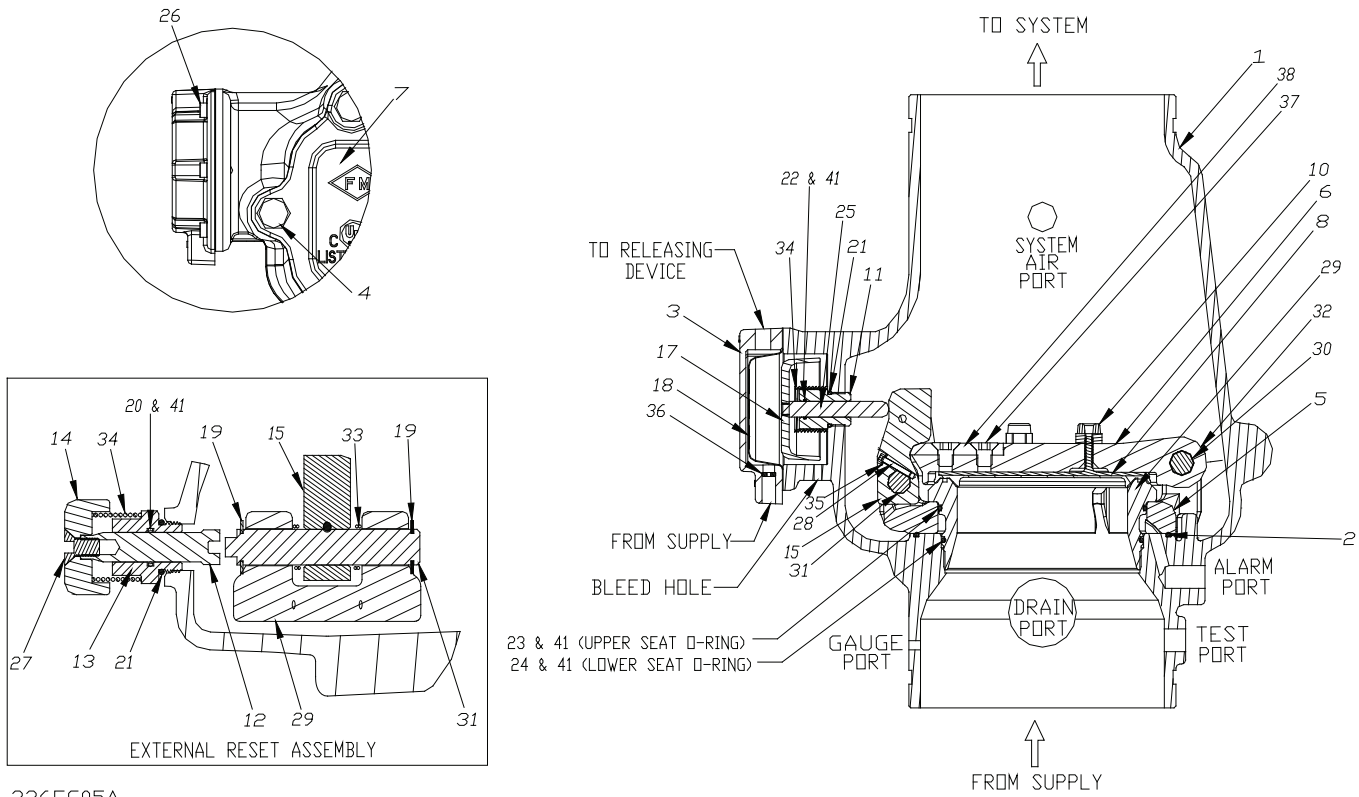

Fig. 5
6. With the Model B Manual Emergency Station, Valve D (Fig.6), open, push in and rotate the Model DDX-LP's reset knob (#14, Fig. 5) clockwise until you hear a distinct clicking noise, indicating that the clapper has closed. **Note:** The reset knob can be rotated only while the pushrod chamber is vented to atmospheric conditions (0 psig).
4. **Ball drip valve G (Fig. 6)**—make sure valve F (Fig. 6) is open. Push in on the plunger to be sure the ball check is off its seat. If no water appears, the Dry Pipe Valve's water seat is tight. Inspect the bleed hole (see Fig. 5) on the underside of the push rod chamber for leakage.
This condition can be caused by leakage past the system side of the Model DDX-LP Dry Pipe Valve's seal assembly (#8, Fig. 5). Be sure that this surface is free of any type of debris. To eliminate leakage due to a water column, refer to the section in this bulletin marked "Draining Excess/Condensate Water From System". If the problem continues proceed to the following section.
If system air is leaking out the ball drip valve, the problem is either damage to the air side of the Model DDX Dry Pipe Valve's seal assembly (#8, Fig. 5), seat (#29, Fig. 5), mounting ring O-ring (#2, Fig. 5), or the upper seat O-ring (#23, Fig. 5). If supply water is leaking out the ball drip valve, the problem could be caused by damage to the Model DDX Dry Pipe Valve's seal assembly (#8, Fig. 5), seat (#29, Fig. 5), or lower seat O-ring (#24, Fig. 5). The following section provides instructions to correct both conditions:
- B. Remove the Dry Pipe Valve's front (handhold) cover (#7, Fig. 5) and inspect the seat (#29, Fig. 5), clapper (#6, Fig. 5), and seal assembly (#8, Fig. 5) for damage.
If inspection indicates damage to the assembly (#8, Fig. 5), replace as follows:
Remove the bumpstop nuts (#10, Fig. 5) and remove the seal assembly (#8, Fig. 5). Install a new seal assembly (#8, Fig. 5) and thread the bumpstop nuts (#10, Fig. 5) onto the threaded studs of the seal assembly (#8, Fig. 5) and tighten finger tight plus ¼ to ½ turn.
If inspection indicates damage to the clapper (#6, Fig. 5) only, then the clapper sub-assembly can be removed as follows:
At the rear of the valve, disconnect the water column drain trim section starting with the elbow connector (#12, Fig. 2). Then remove the ¼" globe valve (#22, Fig. 2), followed by the ¾" x ¼" reducing bushing (#7, Fig. 2). Remove the retaining ring (water column drain line side) from the clapper hinge pin (#30, Fig. 5) and push this pin through the handhold cover and remove the clapper subassembly. Replace the seal assembly as described previously. Inspect the clapper (#6, Fig. 5) visually before reinstalling. Reinstall in the reverse order making sure the clapper spac-
ers are in their proper position. If the seat (#29, Fig. 5) is damaged or it is suspected that the leakage is through the lower O-ring (#24, Fig. 5), the seat-clapper subassembly is easily removed as a unit as follows:
Using Reliable P/N 6881608000 Seat Wrench, remove the seat by unscrewing. This will loosen the seat-clapper-mounting ring subassembly. Reach into the valve and grasp the seat and remove it from the valve. Then remove the clapper-mounting ring subassembly from the valve. Visually examine all components of the seat-clapper-mounting ring sub-assembly replacing any component that appears damaged. New O-rings (#23 #24 & #2, Fig. 5) should always be used for reassembly.